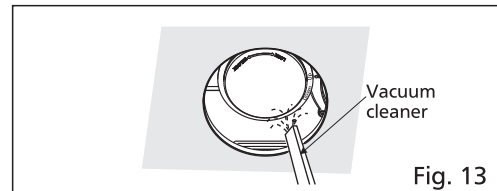

Fig. 13
4. Remove dust and dirt from fan body using a vacuum cleaner. (Fig. 13)